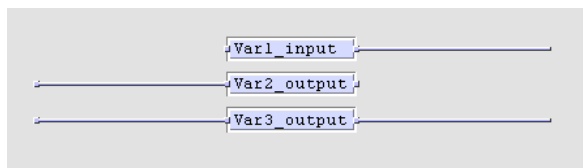

Figure 85: Direction of global variables
- The direction of the variable is determined based on the graphical representation, shown in Figure 85.